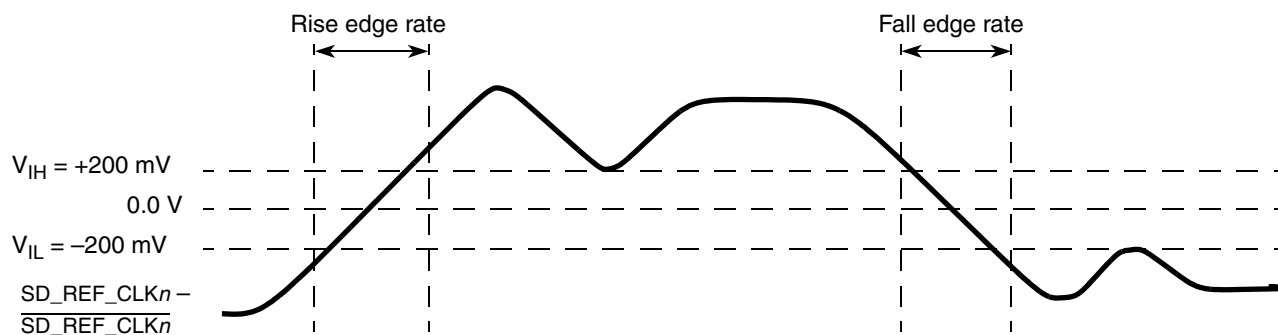

Figure 41. Differential measurement points for rise and fall time
waveform is not referenced to ground. See Figure 41, “Differential measurement points for rise and fall time,” as an example for differential waveform.
- Measured from −200 mV to +200 mV on the differential waveform (derived from SD_REF_CLKn minus $\overline{\text{SD_REF_CLKn}}$). The signal must be monotonic through the measurement region for rise and fall time. The 400 mV measurement window is centered on the differential zero crossing. See Figure 41.